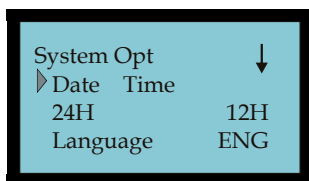

Figure 2-89 Date/Time
3. Press **OK** to display the System Opt menu and select Date Time (see **Figure 2-89**).